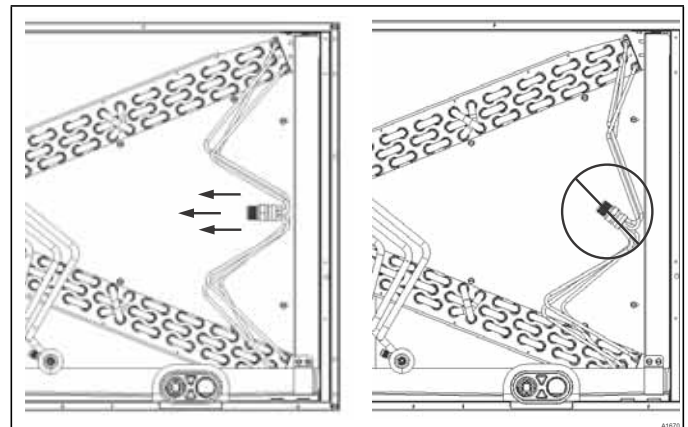

Figure 2: Recommended distributor adjustment
5. Slide the brass nut removed in Step 3 over the supplied liquid line. Place the supplied PTFE washer from the TXV kit in place onto the TXV and install the liquid line onto the top of the TXV. Adjust the assembly so the liquid line aligns with the hole in the access panel. See **Figure 2**. Hand tighten the liquid line and apply an additional 1/4 turn to seal.